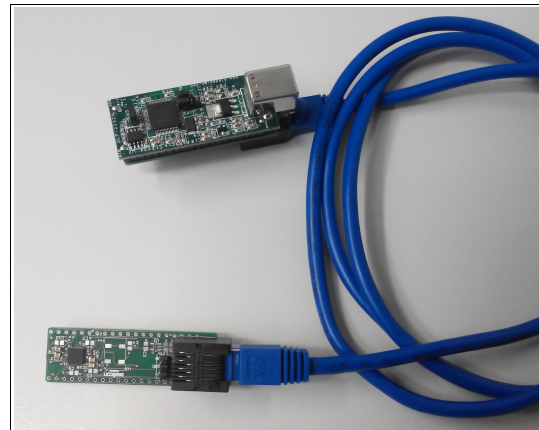

Figure 5: Final setup
5. Connect the PC to the DLP2232H driver board with the USB cable provided. Figure 5 shows how this final setup looks like.